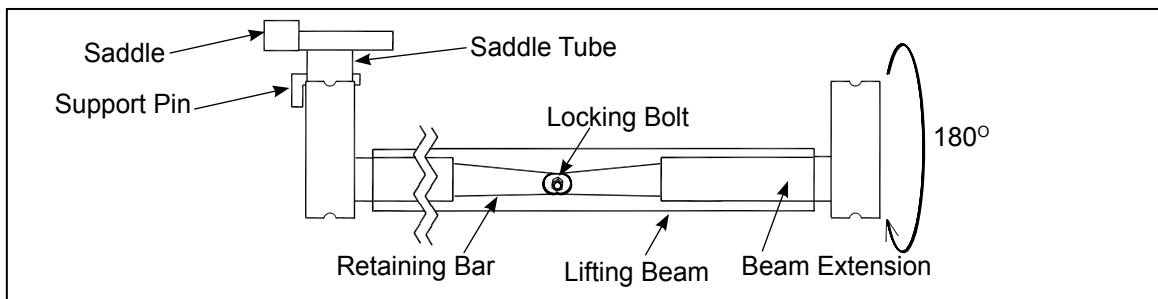

Figure 2.
5. For low pickup height, unscrew the locking bolt and nut, then rotate the beam extensions 180 degrees. Refer to Figure 2.